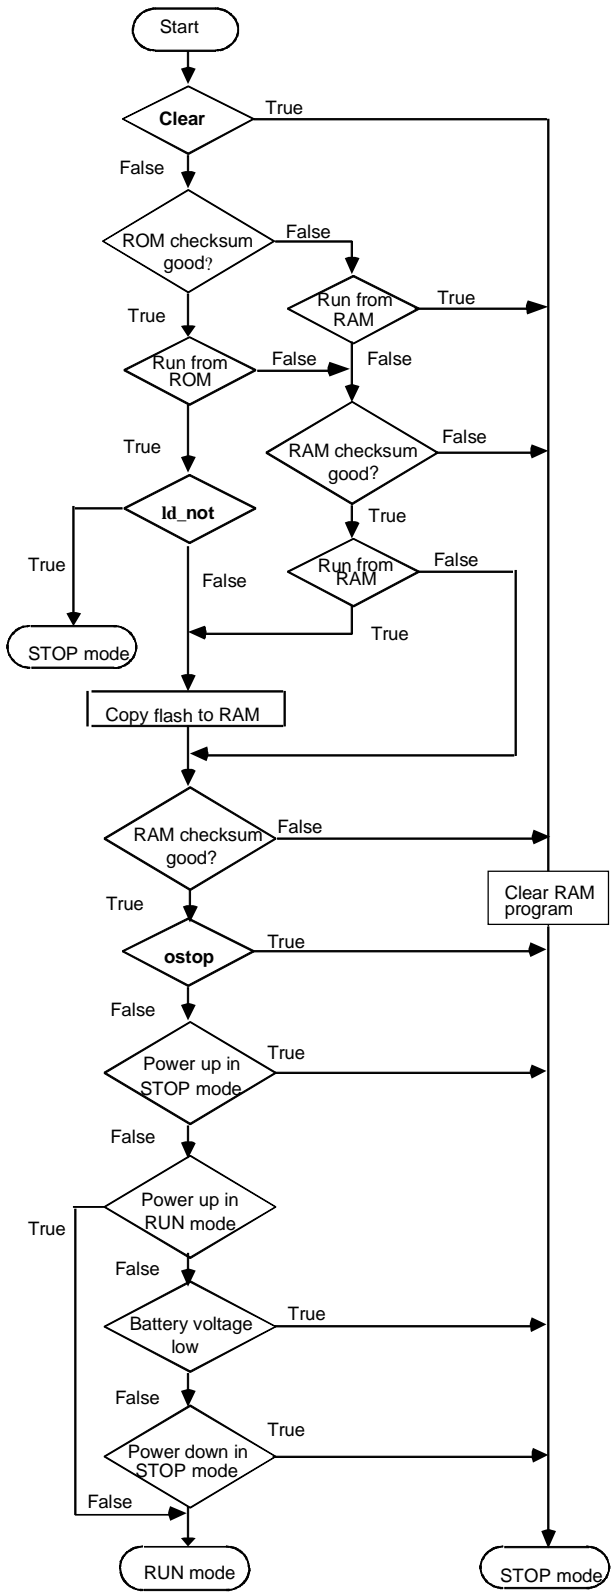

Figure 8-3. Powerup Decision Sequence
The powerup sequence for the Micro PLC consists of the following events, as shown in Figure 8-3.
4. In the final step of the execution, the mode of the first sweep is determined based on CPU configuration. Figure 8-3 shows the decision sequence followed by the CPU when it decides whether to copy from flash memory or to power-up in STOP or RUN mode. In the figure, text in bold refers to commands entered using the Hand-Held Programmer or the Logicmaster 90 software.